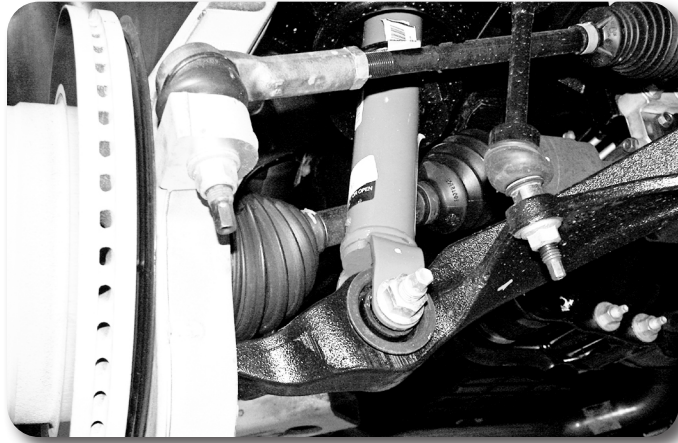

Figure 2
9. Remove the lower strut bolt and nut. (Figure 2)